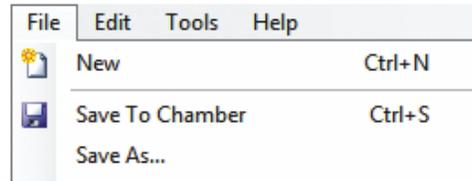

Figure 4-31 Save to Chamber
1. From the **File** menu, select **Save As** (Figure 4-31), or click the **Save**  icon. The **Save As** dialog box appears.